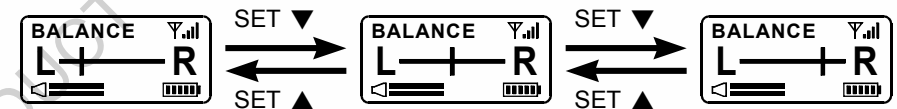

Fig. 13
7. BALANCE Mode, Fig. 13:
- (A) When SET ▲ or SET ▼ button is pressed, the current indicator blinks to denote it is ready to accept change.
- (B) Press and release SET ▲ or SET ▼ button to move the indicator of BALANCE to L (left) or R (right). 5 seconds later or MODE button is pressed, blinking stops and the setting is automatically saved.
- (C) When indicator moves to the left towards (L) this indicates right channel audio decreases. When indicator moves to the right towards (R) this indicate left channel audio decreases.